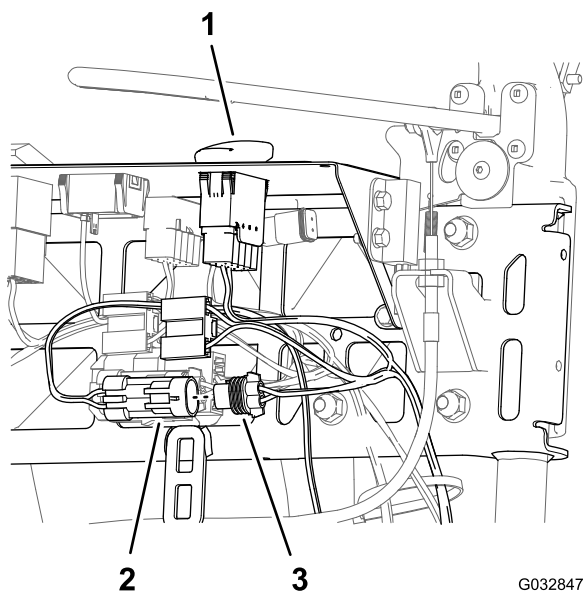

Figure 11
1. Align the 2 socket connector of the wire harness for the LED light and wireless hour meter harness kit with the 2 pin connector of the wiring harness of the LED light kit (Figure 11).
2. Connect the 2 socket connector of the light-kit harness to the 2 pin connector of the LED light and wireless hour meter harness (Figure 11).